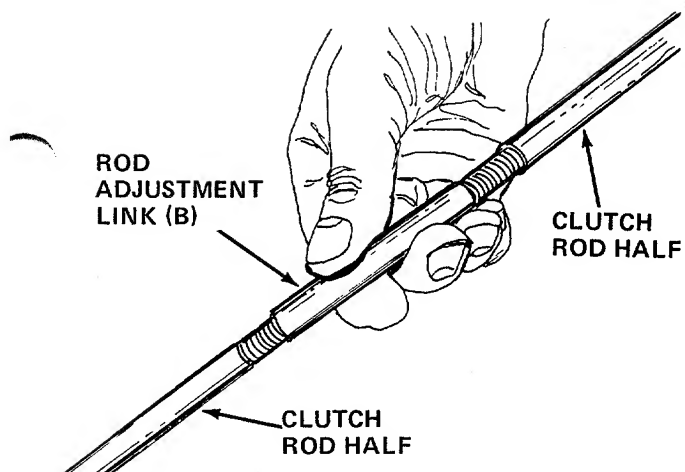

FIGURE 10
16. Thread rod adjustment link (B) onto the upper clutch rod half, using about half of the threads. See figure 10.
17. Thread the lower clutch rod half into the bottom of the rod adjustment link. See figure 10.
If belt slips when engagement handle is in the engaged position, lengthen the clutch rod by turning the rod adjustment link. Refer to figure 10.